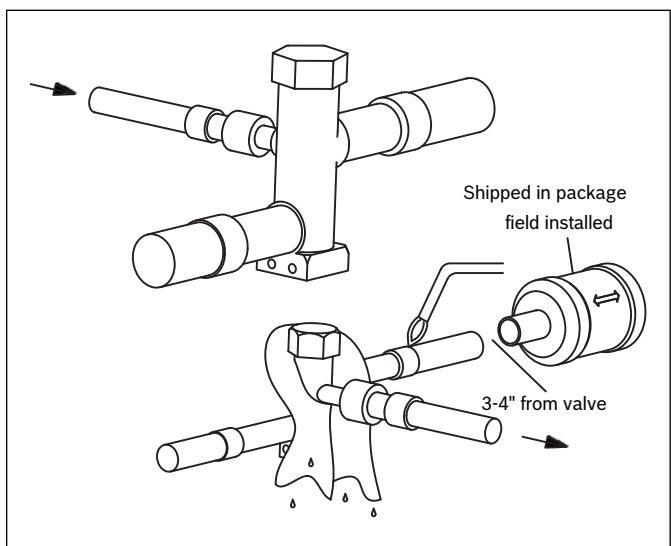

Figure 23
4. Wrap a wet rag around the valve body to avoid heat damage and continue the dry nitrogen purge (Figure 23).